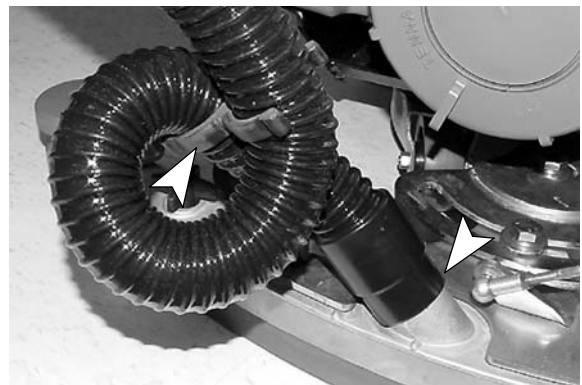

FIG. 6
4. Connect the vacuum hose to the squeegee assembly. Loop the hose as shown using the hose clip provided (Figure 6).